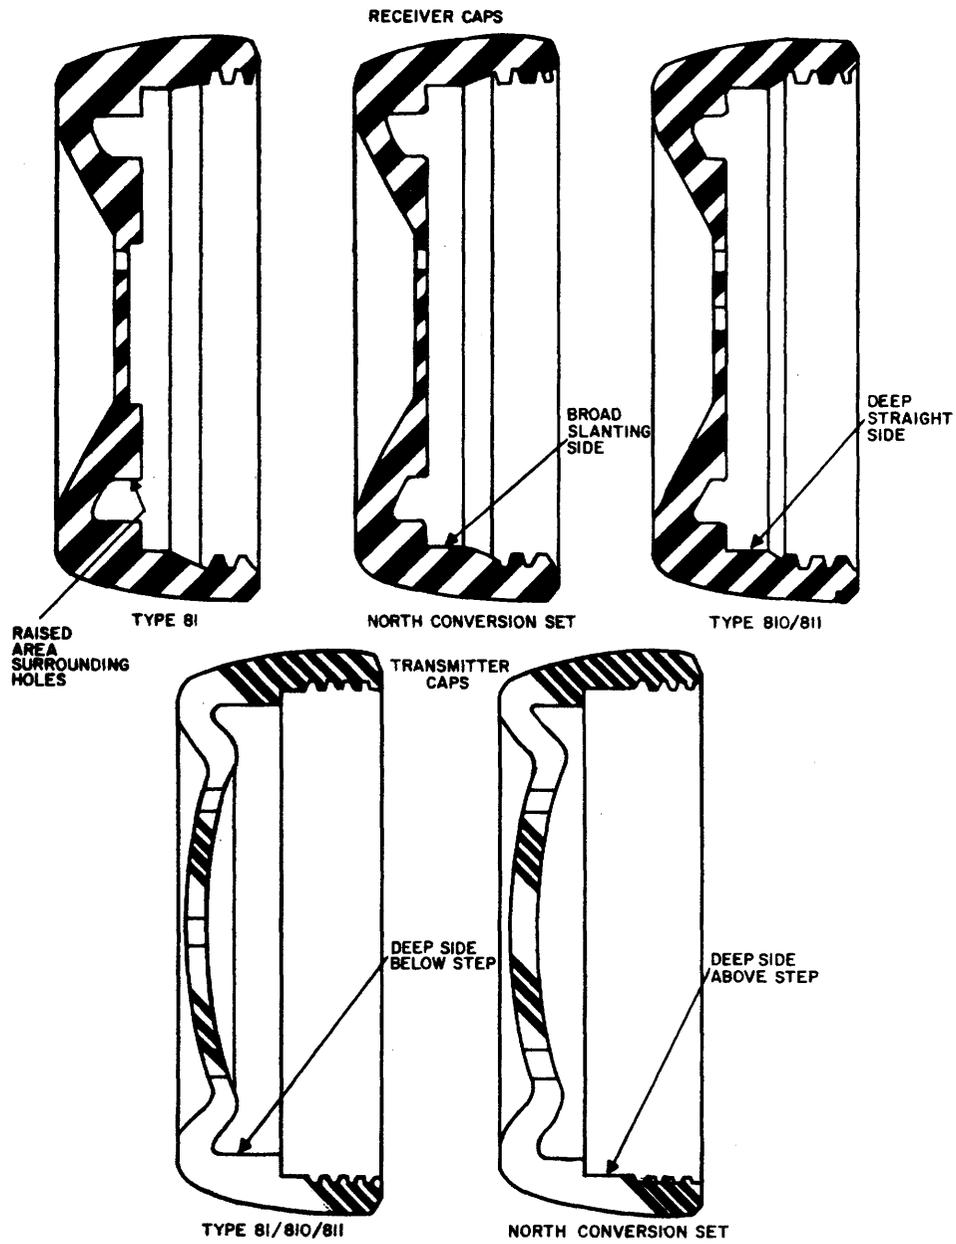

Figure 5. Cross Section of Transmitter and Receiver Caps.
- (c) Transmitter and receiver caps for converted North Electric Company handsets should be used only on those conversion handsets. The dimensions of the electrical components are such that only these caps may be used; therefore, receiver caps for the Type 81, 810, and 811 handset cannot be substituted. Distinguishing features among the various types are shown in Figure 5.